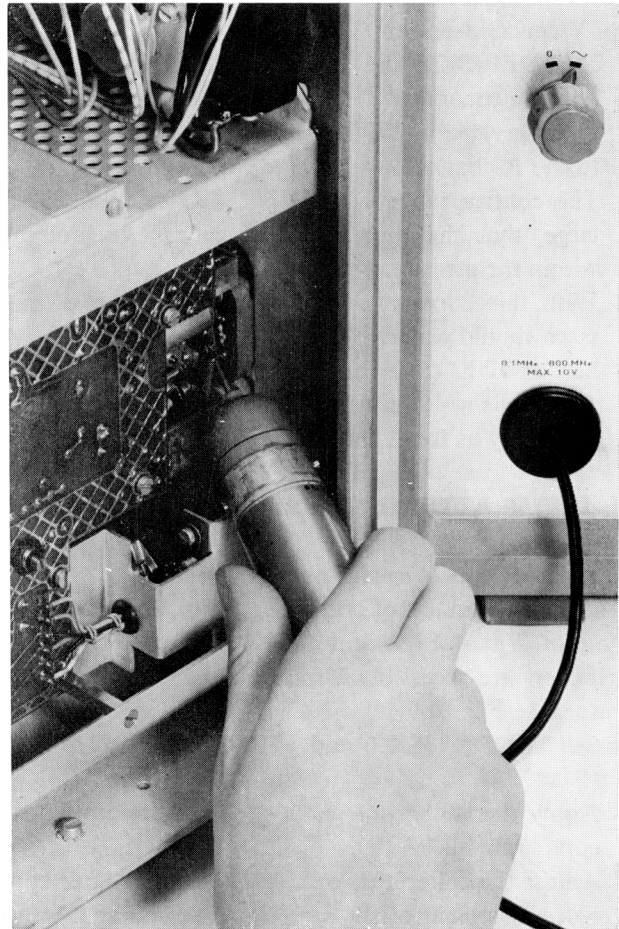

Fig. 9. Measuring probe, directly earthed
A.M./F.M.-generator GM 2621 and the PHILIPS H.F.-millivoltmeter GM 6025. Check at the input of both channels that the voltages required for the measurement of the frequency response curve are equal. For this, connect the measuring pin of the probe to the centre contact of the A.C./D.C. switch; the casing of the measuring probe should be directly earthed, so without the use of the earthing cord (as in Fig. 9).